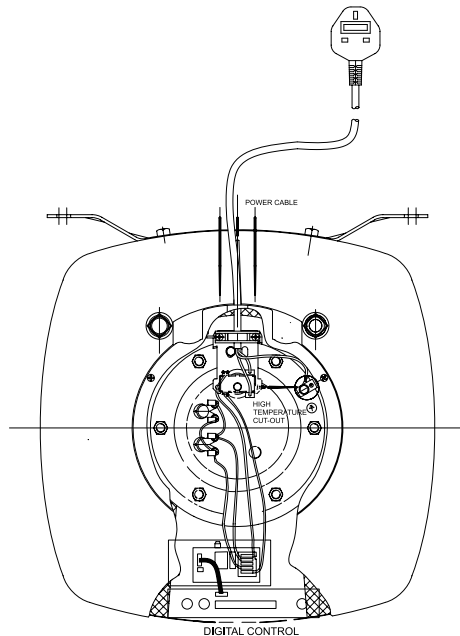

Figure 4
**5.1. The sheathed heating elements** - Two parallel 1.2 or 1.5kW 230v 50Hz sheathed heating elements are pre fitted to the cylinder at the factory. They are wired in accordance with the instructions given in Figure 4.